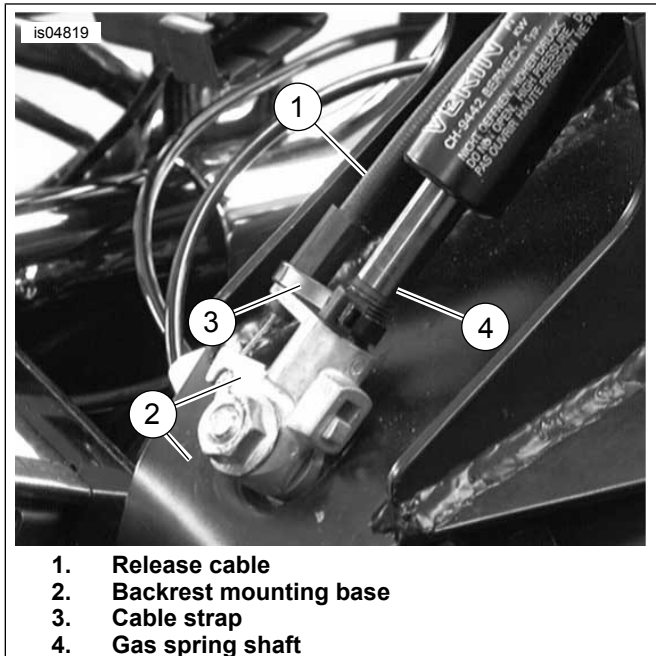

Figure 6. Attach Cable to Backrest Mounting Base
- Figure 6 Attach the release cable (1) to the backrest mounting base (2) as shown. Carefully secure the cable to the shaft of the gas spring (4) with the provided cable strap (3). Do not over-tighten the cable strap.